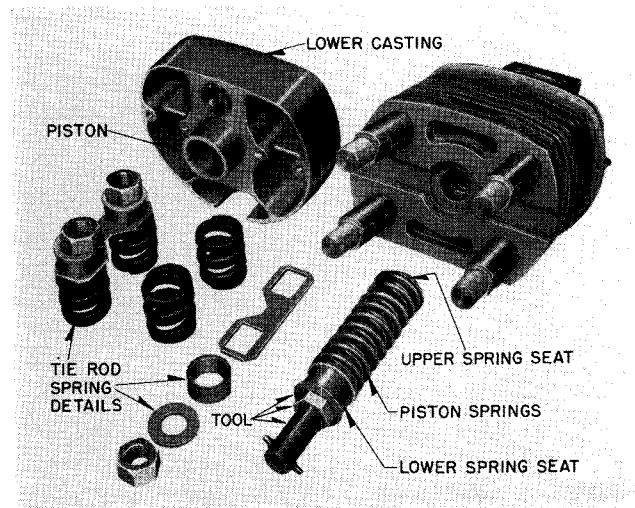

FIG. 19b. Removing Lower Contact
The lower contact (21) may be removed, with its driving spring (10), by removing lower metal shield (6), which is fastened to the lower casting by four bolts, as shown by Fig. 19b.